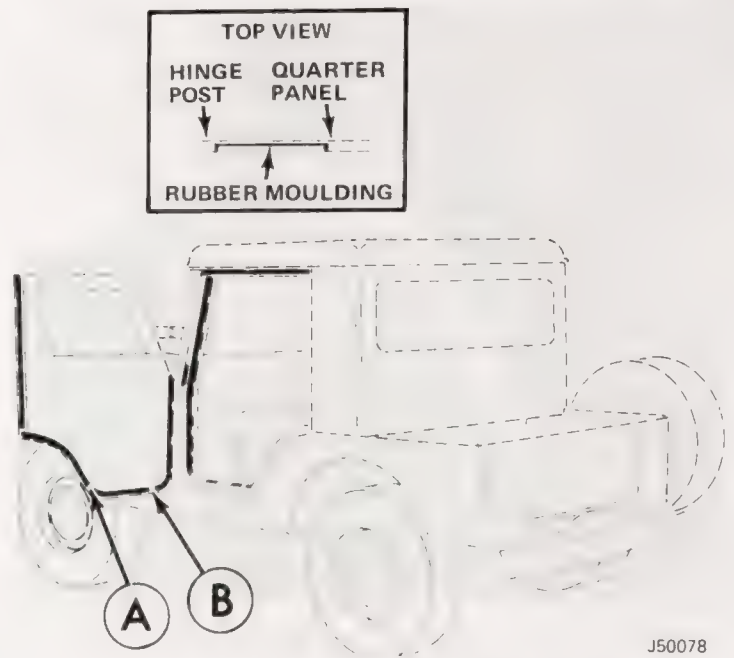

Fig. 2-10 Rubber Moulding Door Strips Installed
(1) Apply vertical strip of rubber moulding along edge of door (striker side), parallel to and 1/8 inch from outside edge and extend from top of door to bottom corner (fig. 2-10).
(2) Butt second strip against lower end of vertical strip, parallel to and 1/8 inch from outside edge, and extend down along bottom of door and up hinge side. Trim surplus material and cut two vertical 1/4-inch wide drain channels at A and B locations.
(3) Apply horizontal strip along top of door opening, beginning on back side of hinge post adapter bracket and extend around corner onto front edge of rear panel.
(4) Apply vertical strip along front edge of door opening, butt top of strip against bottom of horizontal strip, and extend around corner to bottom of hinge post adapter bracket.
(5) Apply vertical strip from bottom of hinge post adapter bracket and extend it down to beginning of radius at bottom corner of door opening.
(6) Apply 8-inch strip at a right angle to vertical strips, with top end at bottom of hinge post adapter bracket.
(7) Check operation of doors and adjust striker plates if necessary.